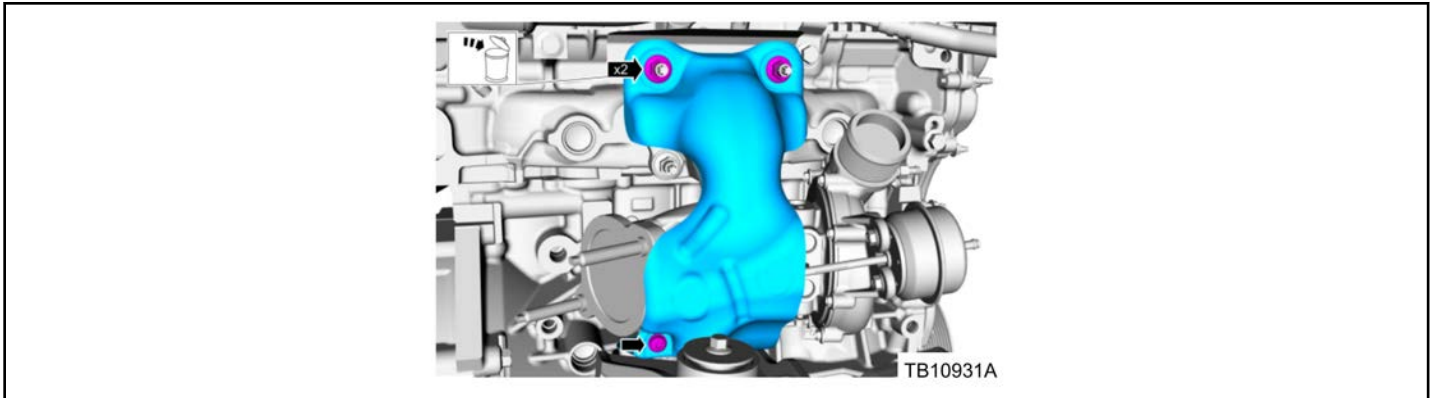

Figure 2 - Article 16-0121
4. Remove and discard the upper turbocharger mounting nuts. (Figure 2)
5. Remove the lower turbocharger heat shield retaining bolt. (Figure 2)
6. Position the turbocharger heat shield aside. (Figure 2)